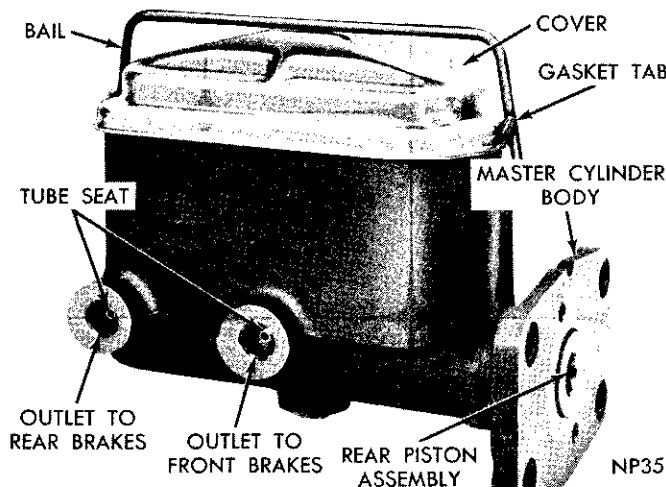
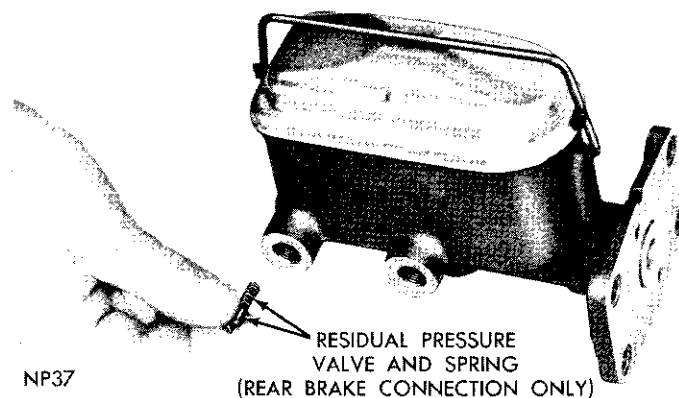
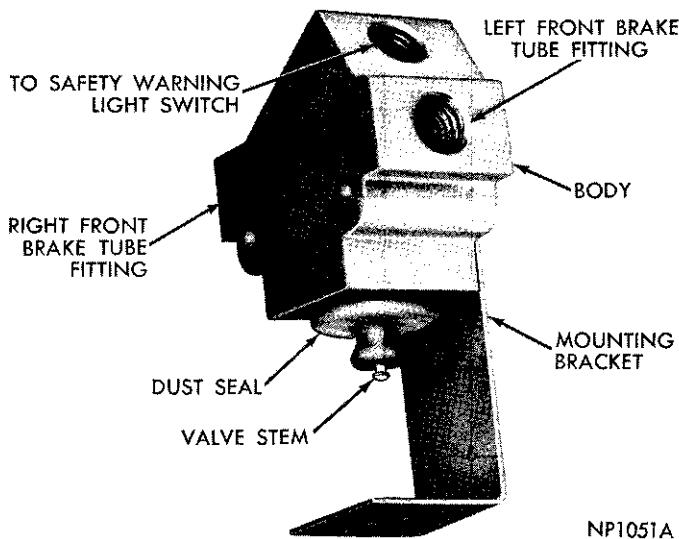

Fig. 1—Tandem Master Cylinder
Fig. 3—Removing or Installing Residual Pressure Valve and Spring
Fig. 1—Metering Valve Assembly
The tandem master cylinder (Fig. 1) (1 and 1/8 inch bore) is of the compensating type with the reservoirs cast integrally. The master cylinder consists of a front and rear piston (in tandem) two outlets, with 1 containing a residual pressure valve and spring (rear brake line outlet only) (Fig. 3).
To disassemble the master cylinder, (Figs. 1 and 4), clean the outside of the master cylinder thoroughly.
(6) Remove residual pressure valve and spring from front outlet (Fig. 3).
(7) Remove rubber cups from pistons after noting position of cup lips. Do not remove center cup of rear piston. If cup is damaged or worn, install a new rear piston assembly.
(4) Install residual pressure valve and spring (Fig. 3) in **front** brake outlet, then install tube seats firmly. (When the bleeding tubes are attached, the tube seats will be positioned correctly.)
sure metering valve (Figs. 1 and 2). The valve is located on the left frame rail, directly under the battery (Fig. 3). The use of the metering valve is to better match front disc brakes with the rear drum brakes, resulting in improved braking and steering control on icy surfaces.